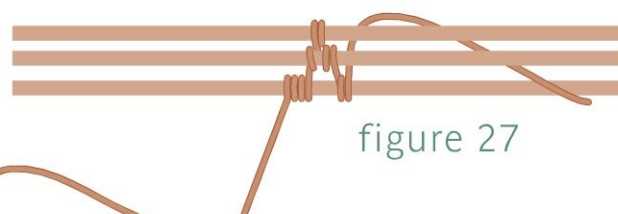

figure 27
- 7 Bring the weaving wire underneath Frame Wire 1; coil twice (Figure 27).